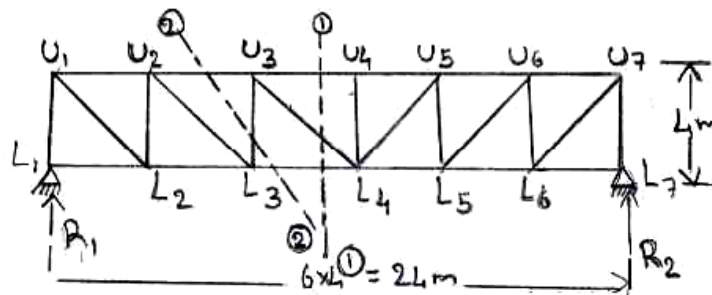

Figure 6
6. Draw the influence line diagram for forces in the members  $U_3L_4$ ,  $U_3U_4$  and  $U_3L_3$  of the frame shown in Figure 6 and find the maximum forces developed, when uniformly distributed load of intensity 40 kN/m, longer than the span moves from left to right on bottom chord. [16]